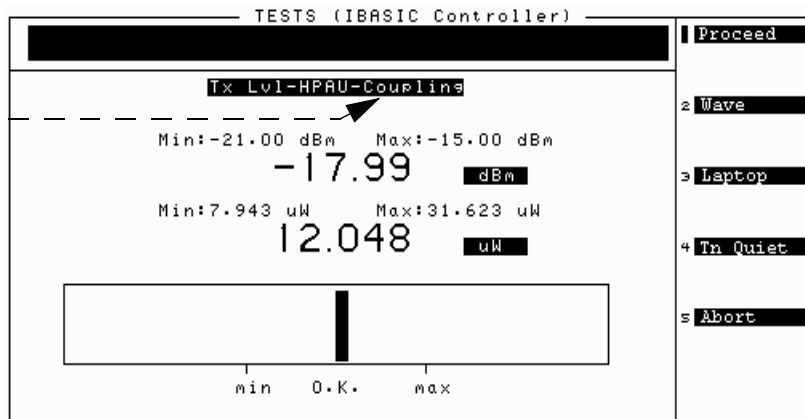

Figure 30 Power Meter Screen for TX Level - HPAU Measurement
1. If you set the Use Power Meter Screen When parameter to None or if you press k1 (Proceed) on the power meter screen (see figure 30), the Test Set will show the test result table on the display when the testing is complete. If the measurement's results fall outside the specified limits, the measurement will fail. A failure is indicated by an F in the P/F column.